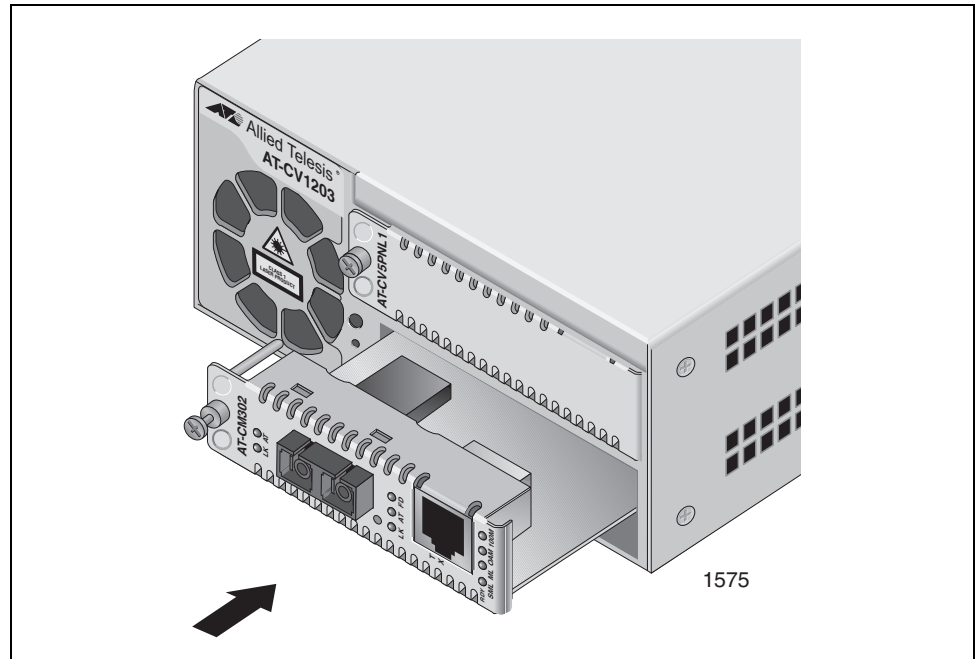

Figure 8. Inserting a Line Card
5. Slide the line card into the slot, as shown in Figure 8, until the front panel of the line card is flush with the front of the chassis.